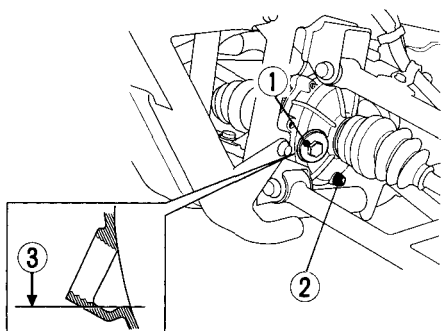

Fig. 4-16
1. To drain the oil, first place an oil drain pan under the oil drain plug (Fig. 4-16).
2. Remove the oil filler cap (1) and the drain plug (2).